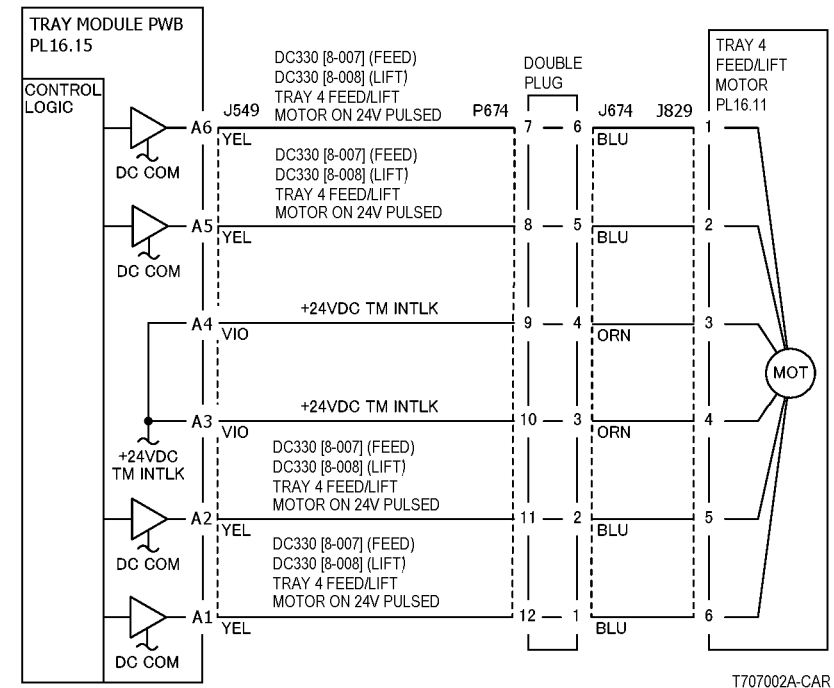
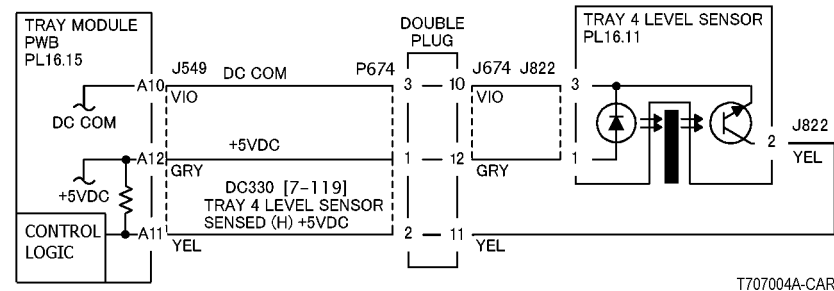

Figure 1 7-293 RAP Circuit Diagram - Tray 4 Lift/Feed Motor (TTM)
Figure 2 7-293 RAP Circuit Diagram - Tray 4 Level Sensor (TTM)
- Ensure that the connectors shown in the circuit diagrams (Figure 1, Figure 2) are securely connected and that the wires are not damaged.